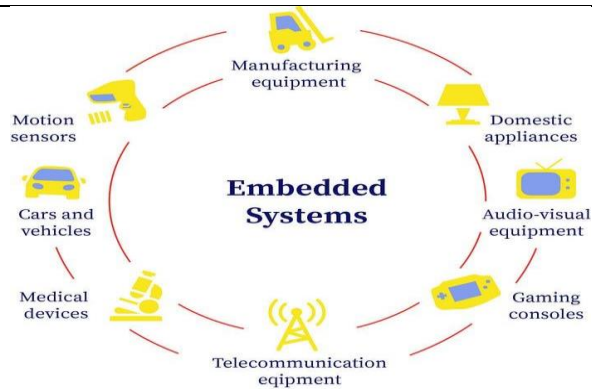

Fig. 1.17: Embedded Systems
5. Embedded Systems – Embedded systems are an unavoidable part of any electronic device nowadays and it has a crucial role in deciding the speed, security, size, and power of the devices. Since we are in the transition phase of a connected world, there is high demand for embedded systems. (Figure 1.17) So, the designing and manufacturing sector of such systems is undergoing numerous innovations to improve performance, security, and connectivity capabilities.